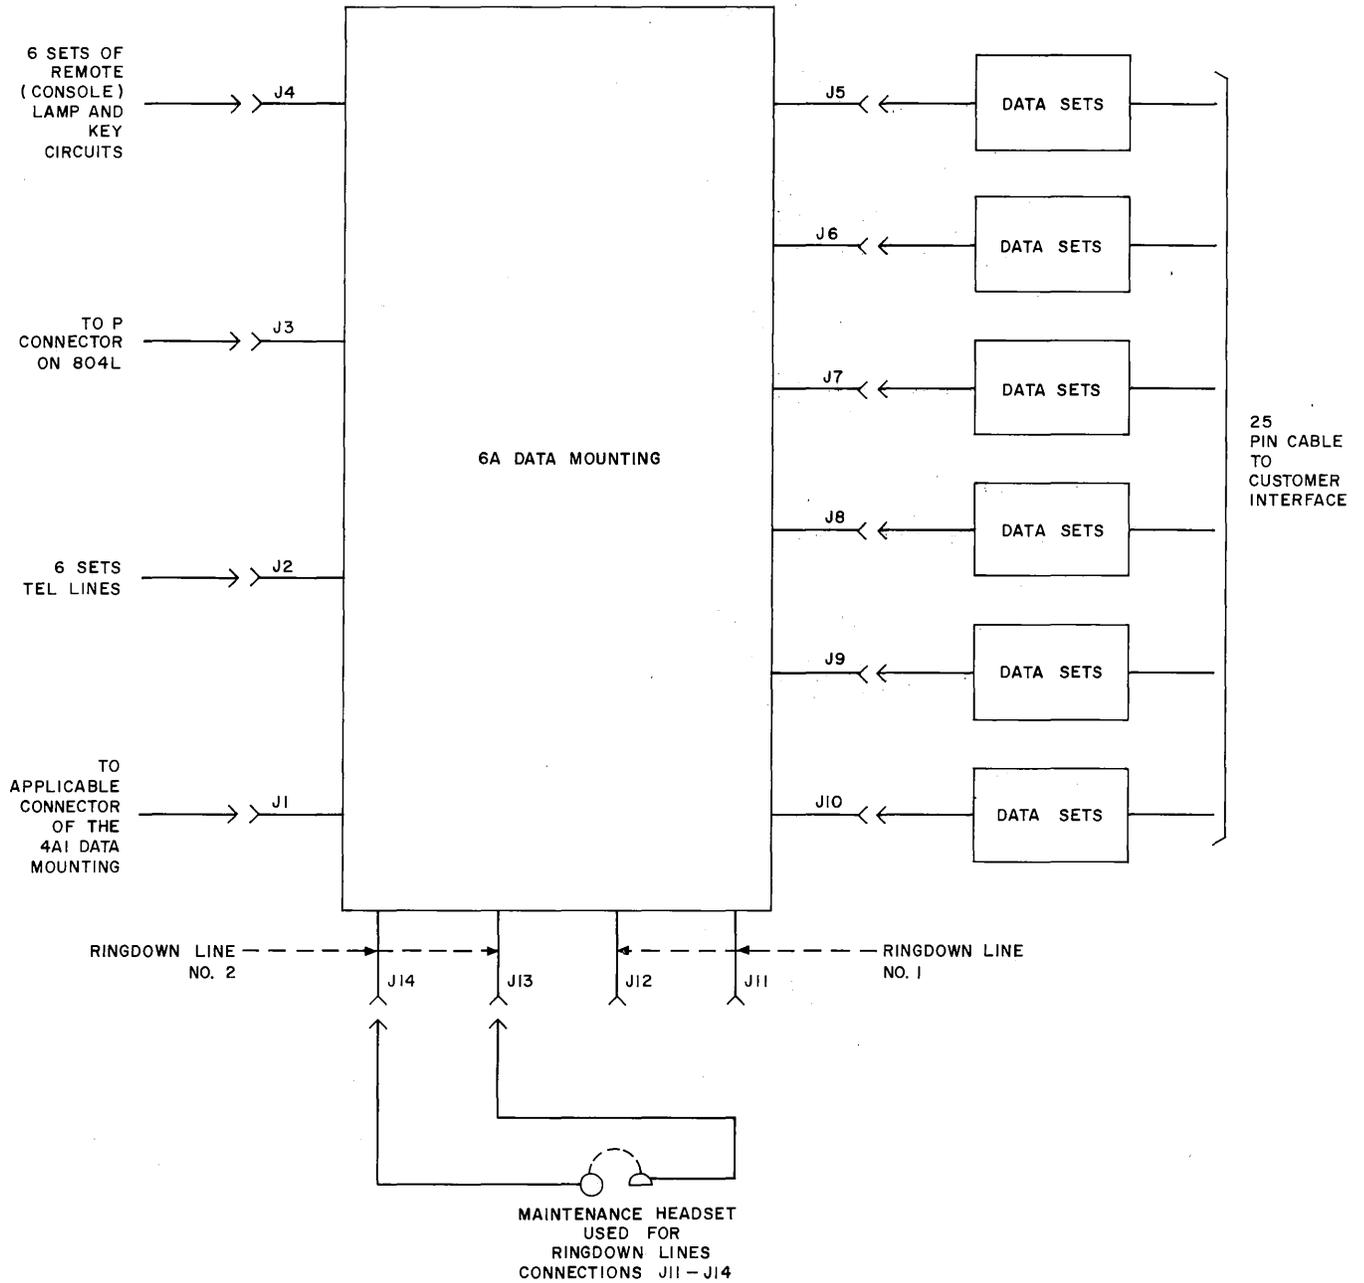

Fig. 2—6A Type Data Mounting—Connections
3.02 The 6A Data Mounting is controlled by the Data Auxiliary Set 804L type and/or the customer console and associated 4A Type Data Mounting. Figure 2 shows the connections for the 6A and its associated equipment.
3.03 When a console control position is not required, a bypass plug must be connected to J4 on the 6A mounting where the connector from the remote console would have been connected. If only console control is required, i.e., no local 804L, the bypass plug must be connected to J3 on the 6A where the connector from the 804L would have been connected. Refer to Fig. 2 for connector designations.